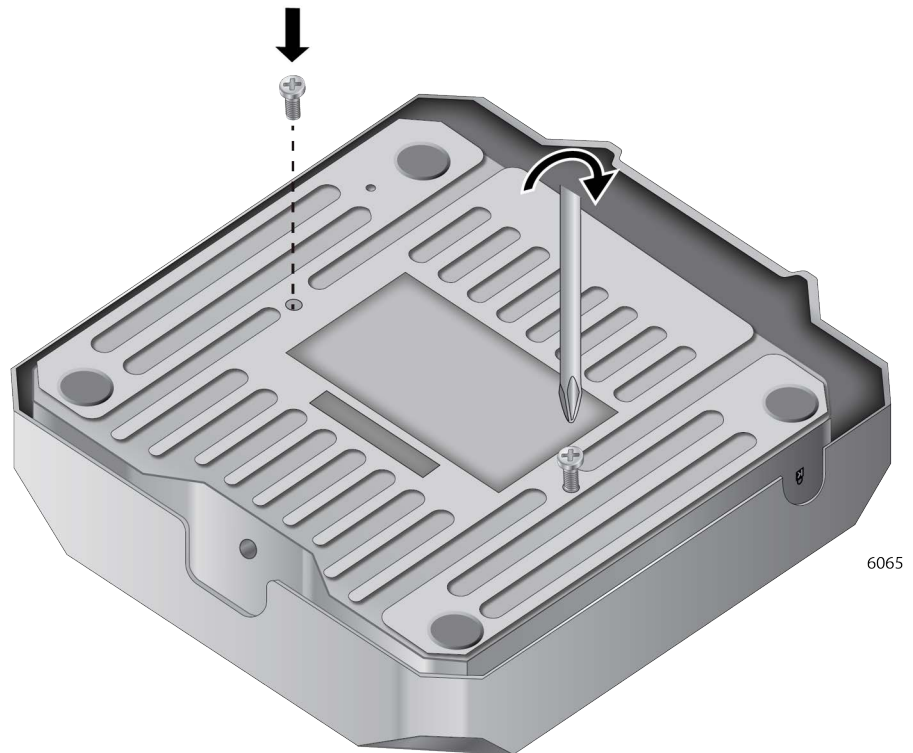

Figure 12. Attaching the Bracket Screws to the Access Point
2. Install the two screws (provided) fully into the bottom panel of the access point. See Figure 12.